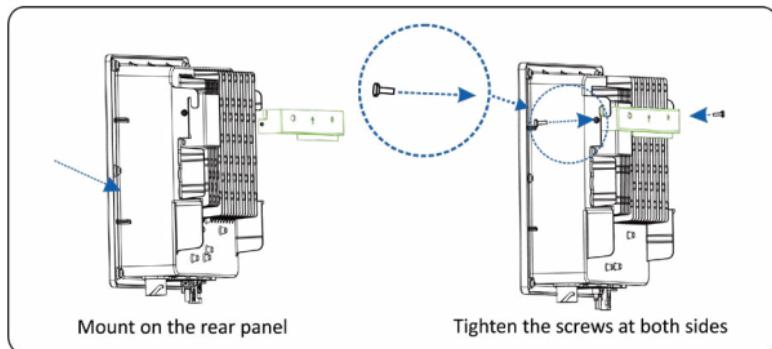

Figure 4.14 Securing the inverter
**Step 2** Mount the inverter on the rear panel and keep them aligned with each other, as shown in **Figure 4.14**.
**Step 3** Tighten the two hexagon screws at the both sides of the inverter to a torque of 1.2N.m and 3N·m respectively. Screw specs for 3K and 5K/6K are M4 and M6 respectively, as shown in **Figure 4.14**.